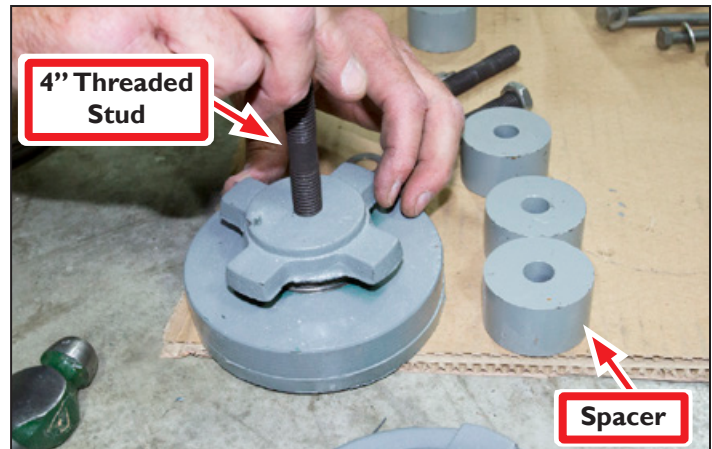

Figure 2.4
5. Screw one 4" Threaded Stud into each Lathe Foot (see **Figure 2.4**); slide a Spacer onto each stud.